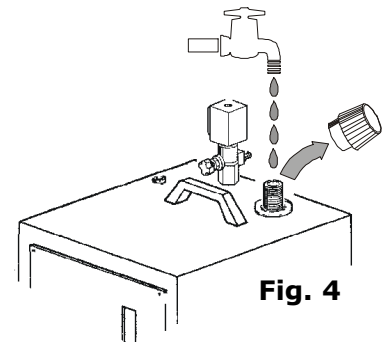

Fig. 4
1. Unscrew the security valve plug (fig. 4), fill the boiler with water till overflow or at pleasure.
Unscrew the valve plug (fig. 4) and tilt the MINI 5 towards the right so that all water and impurities come out.